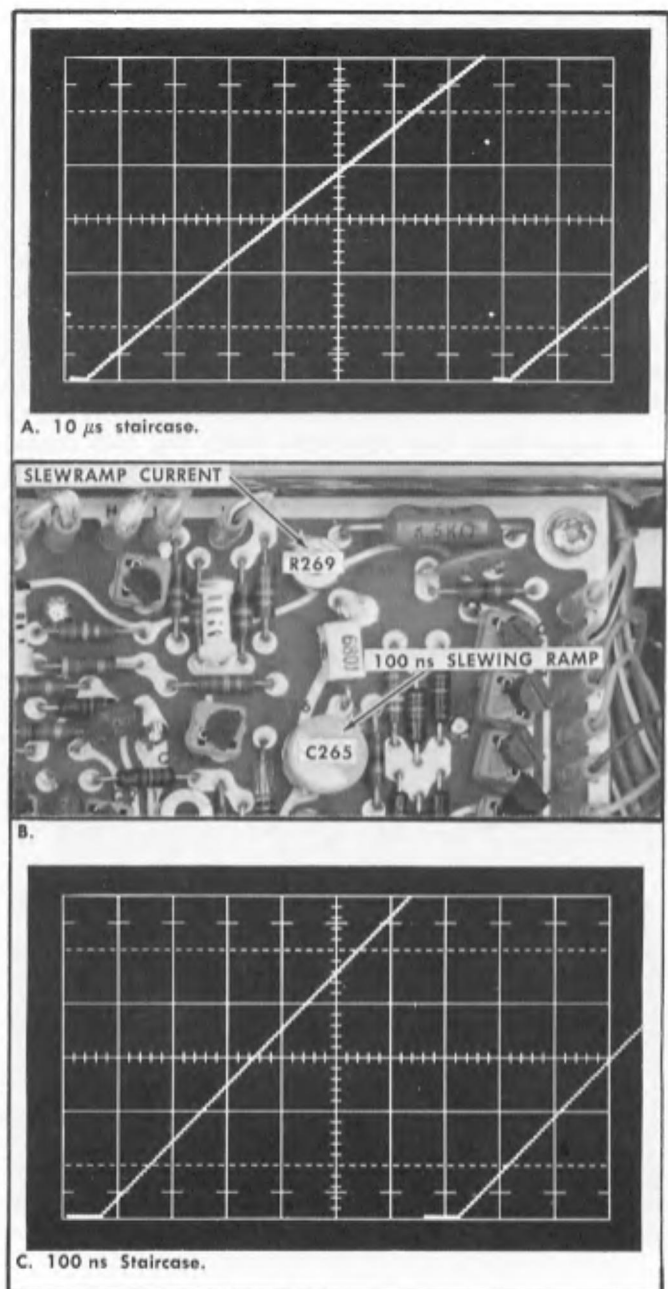

Fig. 7-24. Waveforms at bases of Q533/Q531 and the location of adjustments, Trigger Board Assembly, right side of instrument.
- b. Connect the 1 $\times$  probe to the base of Q533. Set the Test Oscilloscope Time/cm switch to 1 ms and the Type W Millivolts/cm switch to 20. Set the Variable control for a Test Oscilloscope display amplitude of 6 cm; see Fig. 7-24.